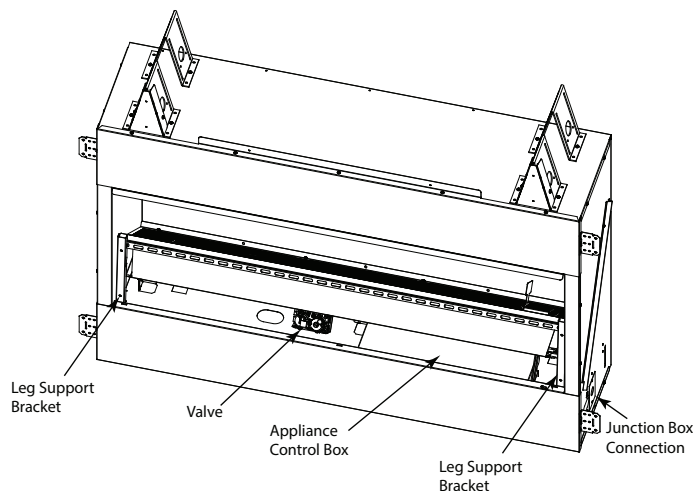

Figure 6.1. Appliance With Engine Lifted
The valve and controls are located in the appliance control box. See Figure 6.1.
The control box and controls can be accessed by lifting engine assembly as shown in Figure 6.1
- Lift the front of the burner assembly and place the two leg supports, provided under the Engine, against lower front space at the bottom of the face, and slide into the slots at the bottom of the engine assembly. See Figure 6.1.